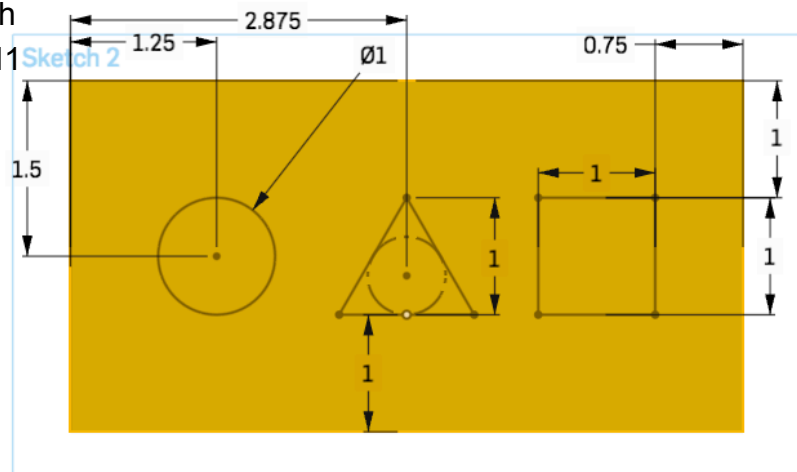

Figure 11
3. Change dimensions to match figure 11